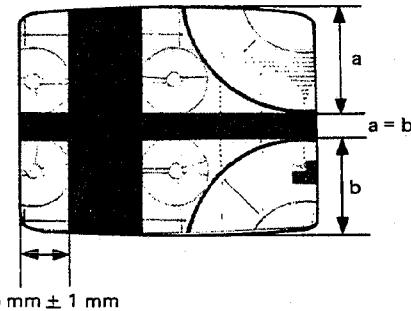

Figure 4
3. Adjust P.C. V-Position control (R428) until horizontal blanking line becomes at the vertical center on picture tube screen. (See figure 4.)
3. Adjust P.C. H-Position control (R555) until the length between left screen edge and vertical blanking line becomes approximately 35 mm. (See figure 4.)